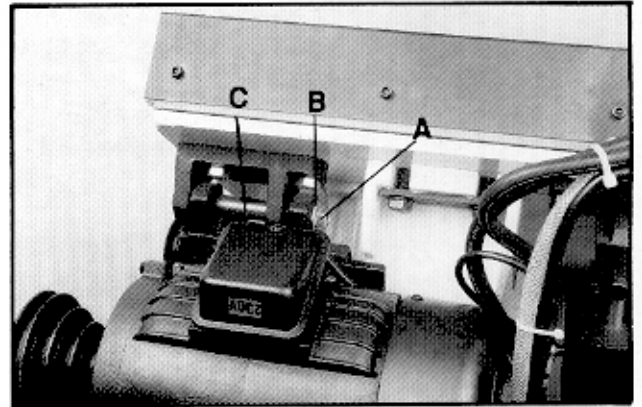

Fig. 2
2. Remove nut (A, Fig. 2) and washer (B, Fig. 2) from the motor support shaft. **Note:** Picture shows motor already in place.
3. Remove shaft (C, Fig. 2) from the motor mount bracket.